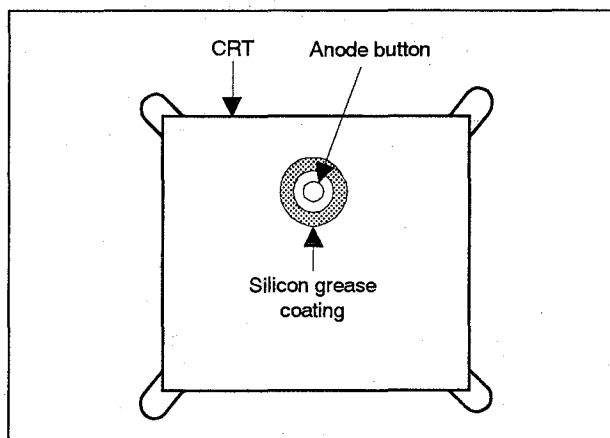

Fig. 6
- Subsequent to replacement of the CRT and HV transformer or repair of the anode cap, etc. by dismantling them, be sure to coat silicon grease for electrical insulation as shown in Fig.6. Wipe around the anode button with clean and dry cloth. (Fig.6)